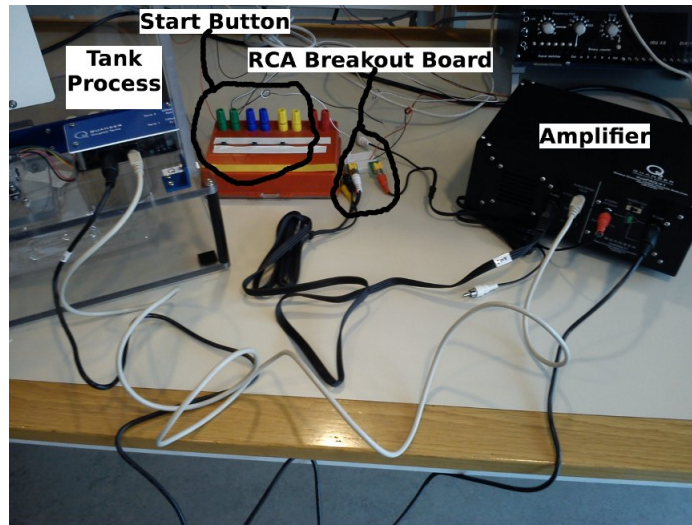

Figure 3: Water tank, start button, RCA breakout board and amplifier
Figures 3 and 4 shows most components of the lab setup. Following is a wiring summary.
**Pump Power From RCA Breakout Board to Amplifier** Use the 2xRCA-to-2xRCA cable to connect the socket labeled *From D/A* on the amplifier to one of the connectors on the RCA breakout board. In fig. 3, this is the rightmost connector on the RCA breakout board, that has a red RCA plug connected.
**Sensor Output From Amplifier to RCA Breakout Board** Use the 5-pin-DIN-to-4xRCA cable to connect the socket labeled *To A/D* on the amplifier to one of the connectors on the RCA breakout board. In fig. 3, this is the leftmost connector on the RCA breakout board, that has a white RCA plug connected. It is essential that the *white* RCA plug is used.